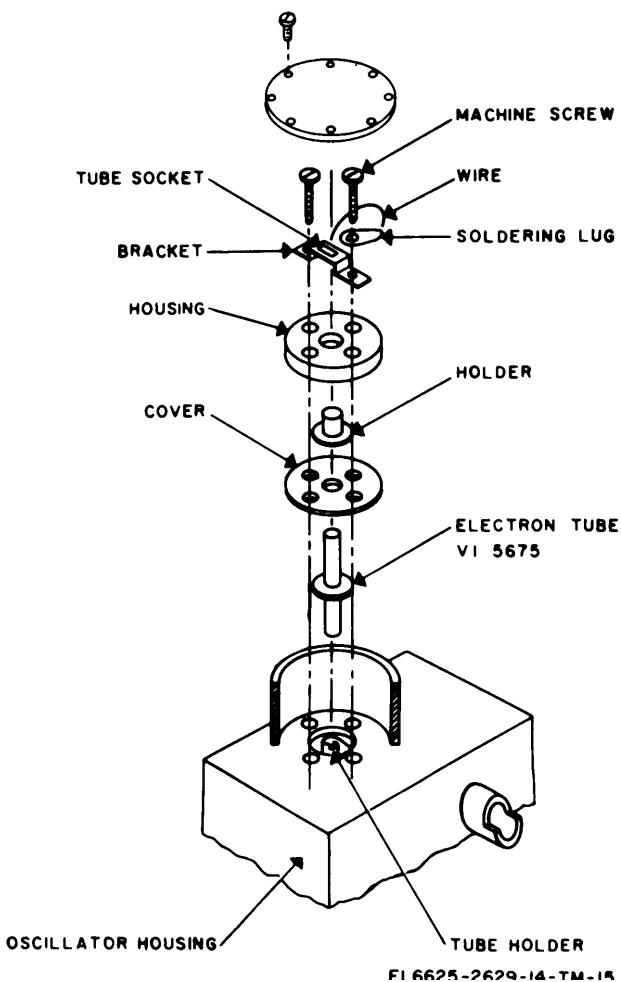

Figure 7-6. Disassembly diagram for replacement of tube VI.
(3) Place the coupling (39) over the tuning capacitor shaft.
(4) Tighten the setscrews (38) on the shaft.
(5) Tighten the screws that hold the tuning capacitor (31) to the bracket (30). Be sure that the shaft rotates freely.
(6) Replace resistors R7 (60) and R8 (61) to the capacitor contact assembly (28) an plateholder assembly (17) contacts.
(7) Replace V1.
(8) Replace the rotor shaft (9) in its original position.
(9) Push the rotor shaft (9) into position.
(10) Tighten the detent arm (5) by tightening the screw (3) attached to the detent bracket (4).
(11) Replace the retaining ring (10) in the groove in the rotor shaft (9).
(12) With the rotor in position, tighten the setscrew (24) on the rotor hub.
c. Replacement of Electron Tube VI (fig. 7-6).
(1) Remove 8 screws with lockwashers holding the lid, then remove the lid that covers the tube enclosure.
(2) Remove the two machine screws that hold the tube socket bracket assembly.
(3) Lift off the tube socket bracket assembly.
(4) Remove the two remaining screw.
(5) Lift off the housing, the holder, and the cover.
(6) Pull the tube straight up to remove it from the plate contact.
(7) Insert new tube into the plate contact.
(8) Be sure that the grid makes contact with the grid contact mounting of the tuning capacitor.
(9) Replace the cover, holder, and housing.
(10) Replace the two screws that do not hold the bracket.